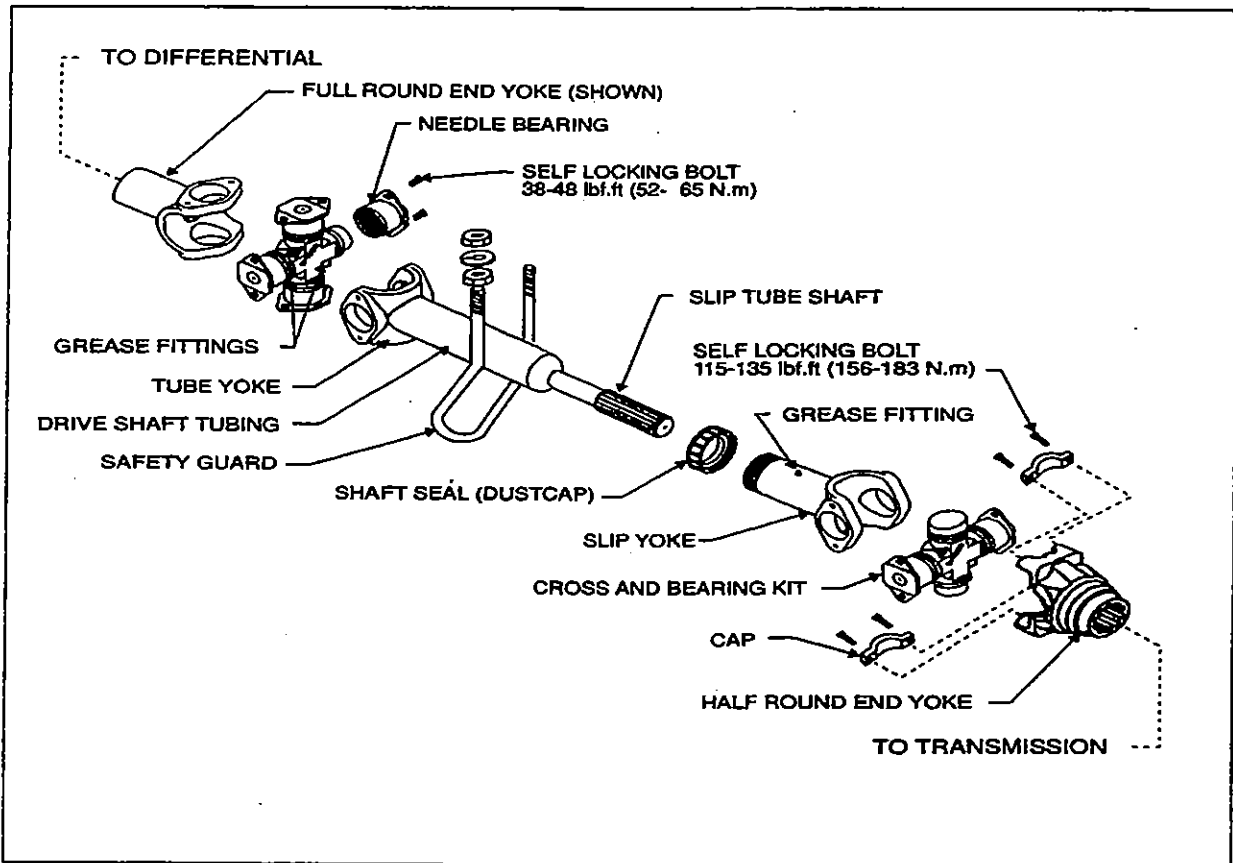

Figure 1: Propeller Shaft Assembly
The propeller shaft transmits power from the transmission to the differential (refer to Fig. 1). According to the transmission model with series 60 engine, two lengths of propeller shafts are available. Refer to paragraph "6. Specifications" at the end of this section for details. Both propeller shafts are "Dana 1810 " type and each shaft is tubular. They are provided with two heavy-duty universal joints (Fig. 1).
- Screw bolts to the specified torque (Fig. 1).